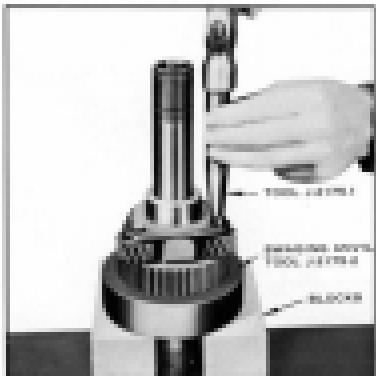

Fig. 513. Reusing Planet Pin
- Remove assembly from holding fixture and place over arbor J-2175-2. Position the swaging tool J-2175-1 over planet pin and swage end of each pin. (Fig. 513)